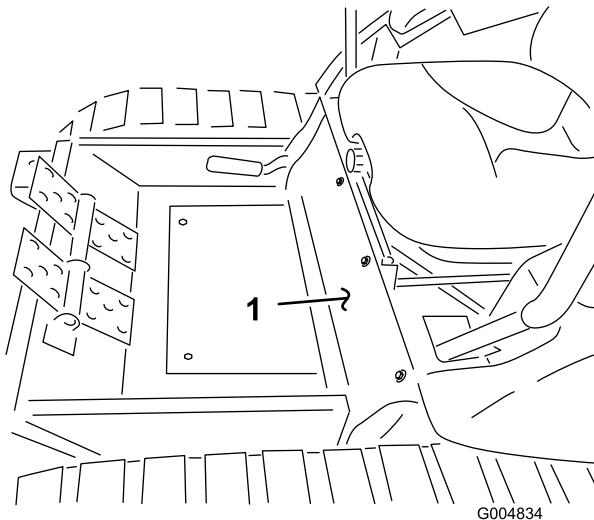

Figure 62
- Install the floor plate cover (Figure 61) and the front cover (Figure 62).